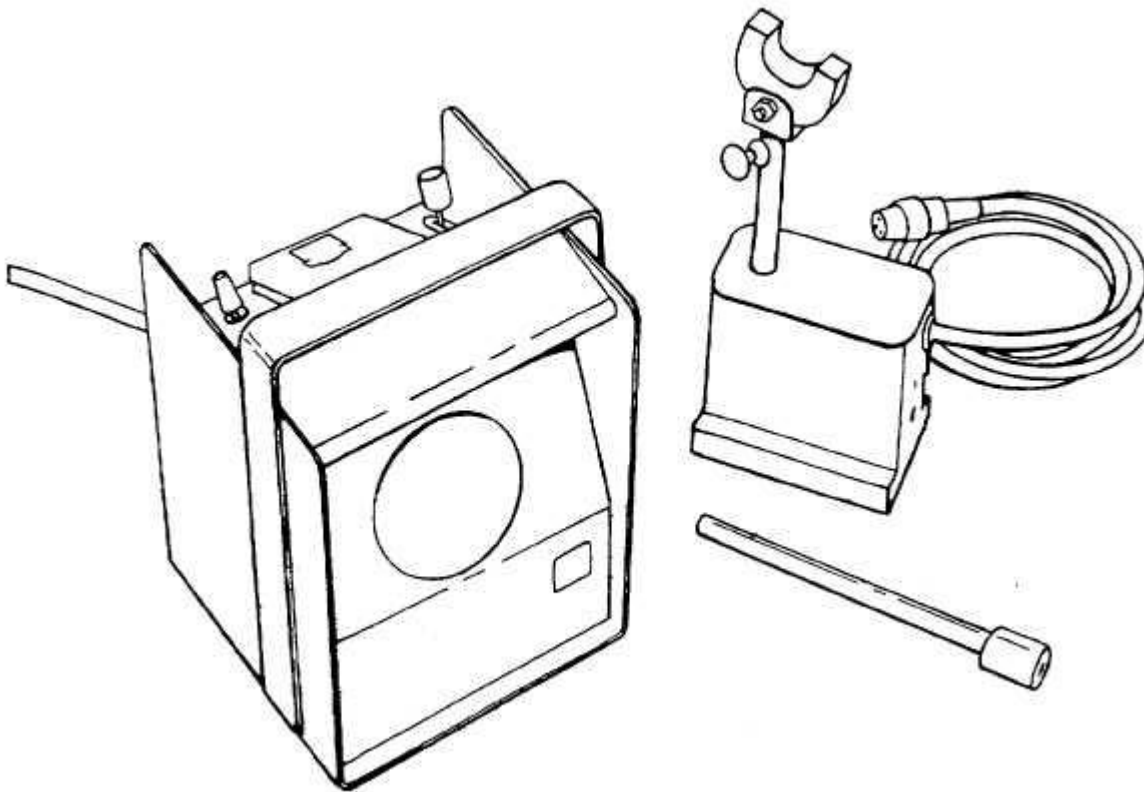
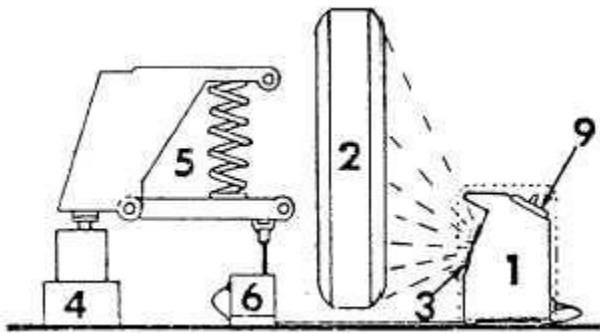

Figure 2. On-Vehicle Electronic Wheel Balance
Figure 3. Balancer Hook-up
The following text and drawings are intended to familiarize the service technician with the unit circuitry as it is applied to balancing a vehicle wheel. The drawing below has been simplified to show clearly the vehicle and balancer components. *Figure 3. Balancer Hook-up* Figure 3 shows the balancer strobe unit (1) positioned to the side of a vehicle wheel (2). The strobe flashtube (3) is directed at the wheel. The vehicle frame is elevated by the jack (4) so the wheel is supported above the floor by means of its spring suspension system (5). The vibration pick-up assembly (6) has the magnet-rod assembly (7) adjusted by thumb screw (8) so the U magnet is in firm contact with a flat surface on the lower suspension member. See Figure 2 for detail of the vibration pick-up. Normal wheel balancing procedure requires the wheel to be spun to approximately 60 to 70 MPH with a wheel spinner. The strobe unit meter reading (9) will rise as wheel speed increases.